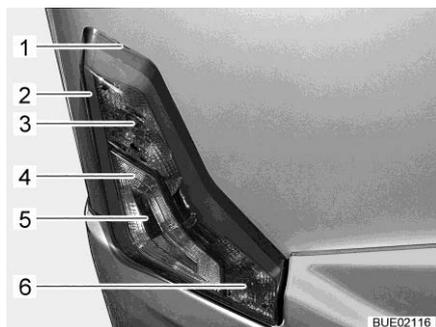

Fig. 309 Rear lights
- Insert flat tool into notch (Fig. 309,1) and carefully lever off the housing.